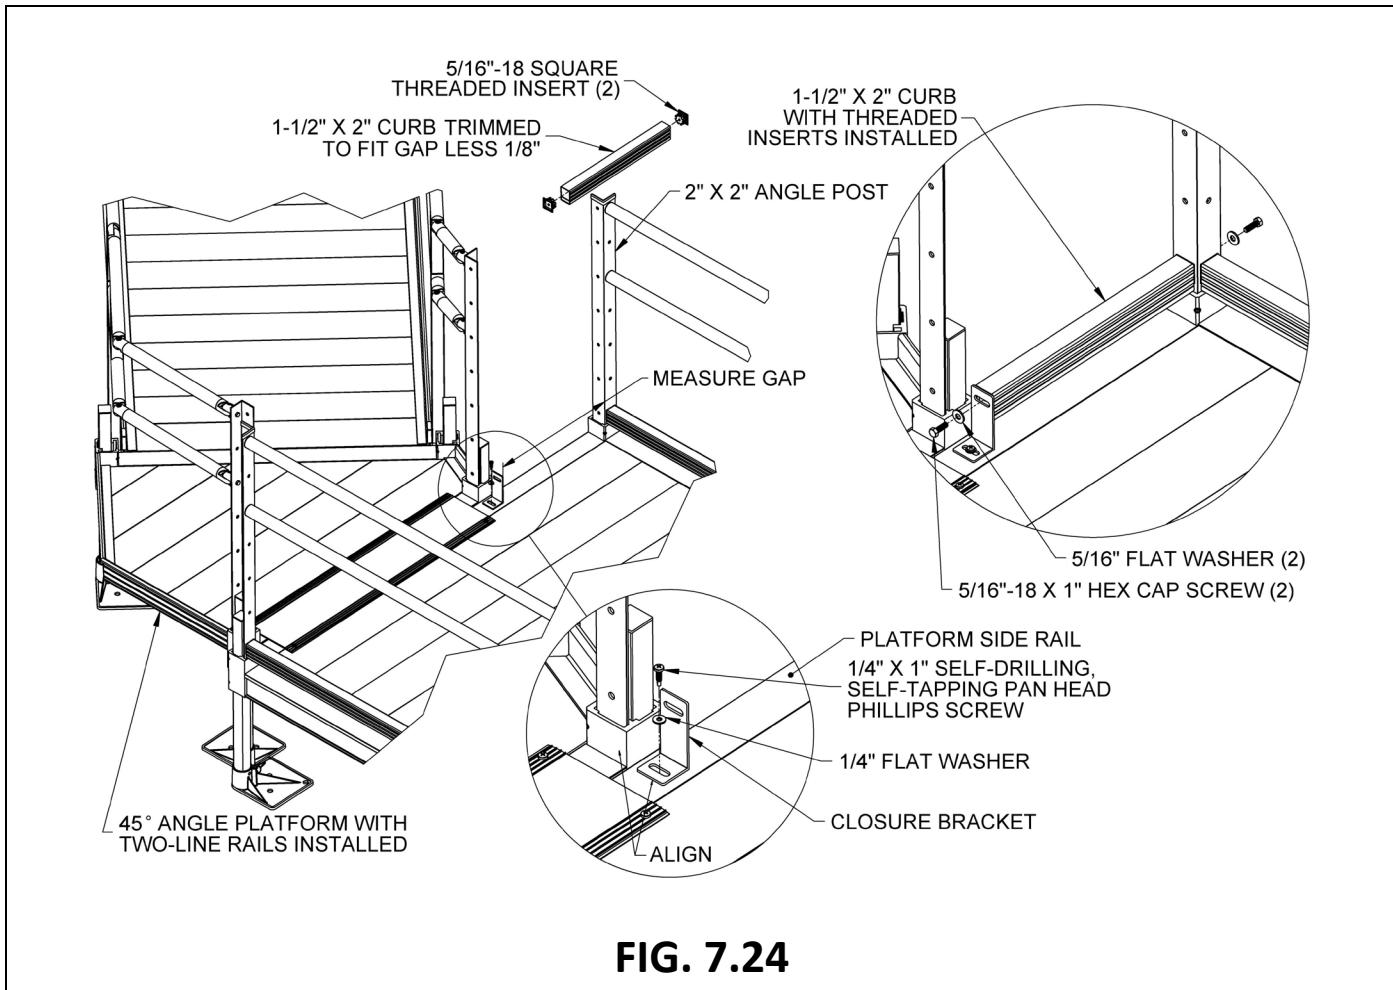

FIG. 7.24
7.9.10. Center the long leg of the closure bracket with respect to the 2" x 2" angle post and align the short leg (approximately) with the 45-degree Angle Platform corner pocket, then screw the short leg to the platform side rail using a 1/4" x 1" self-drilling, self-tapping pan head Phillips screw and 1/4" flat washer (FIG. 7.24).
7.9.11. Measure the gap between the long leg of the closure bracket and the 2" x 2" angle post, then trim the 1-1/2" x 2" curb to the measured gap length less 1/8" to account for the threaded inserts which will be installed after trimming (FIG. 7.24).
7.9.12. Deburr all sharp edges from trimming the curb and insert 1-1/2" square, 5/16"-18 threaded inserts in the ends. Use a rubber mallet or similar tool to fully seat the threaded inserts (FIG. 7.24).
7.9.13. Attach the 1-1/2" x 2" curb to the closure bracket and the 2" x 2" angle post using 5/16"-18 x 1" hex cap screws and 5/16" flat washers (FIG. 7.24).